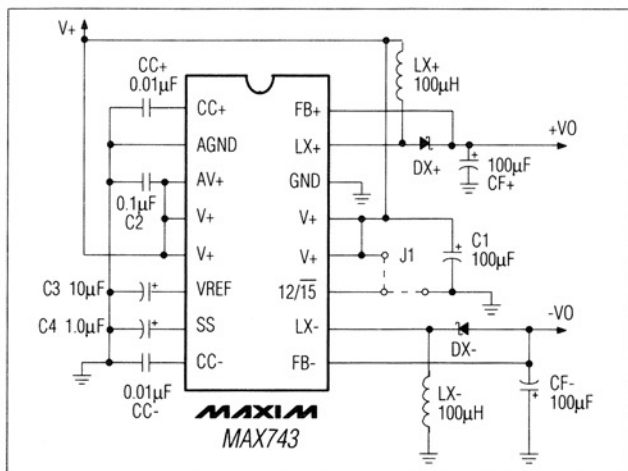
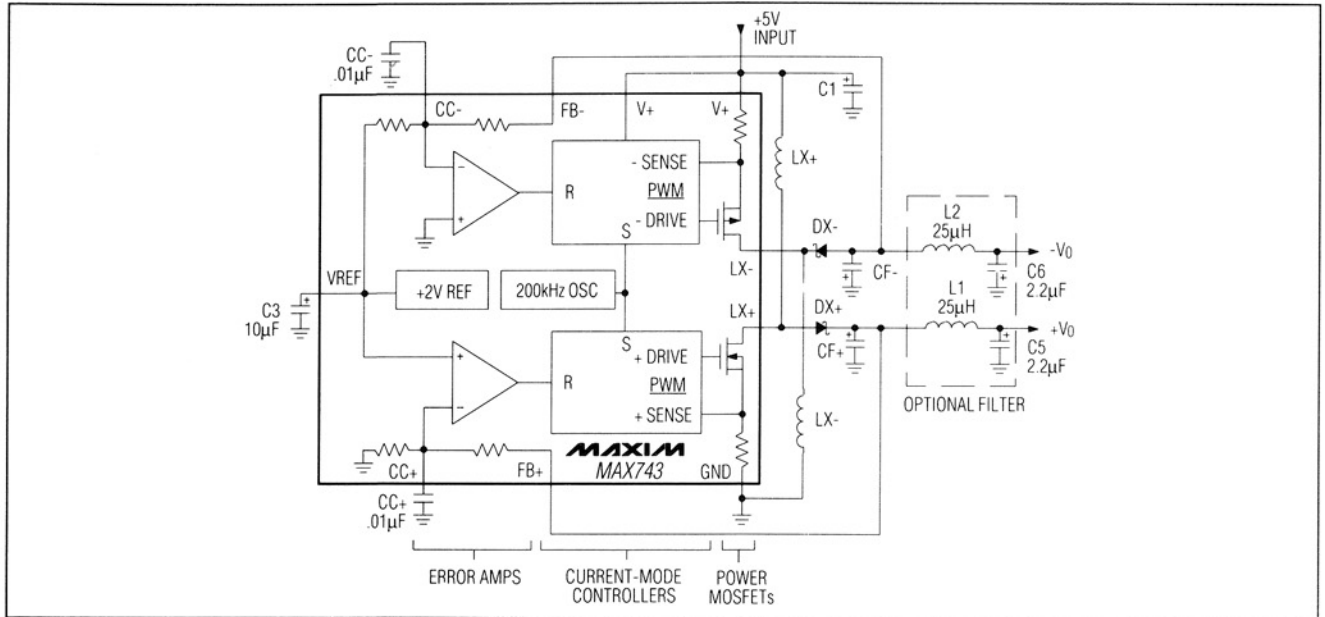
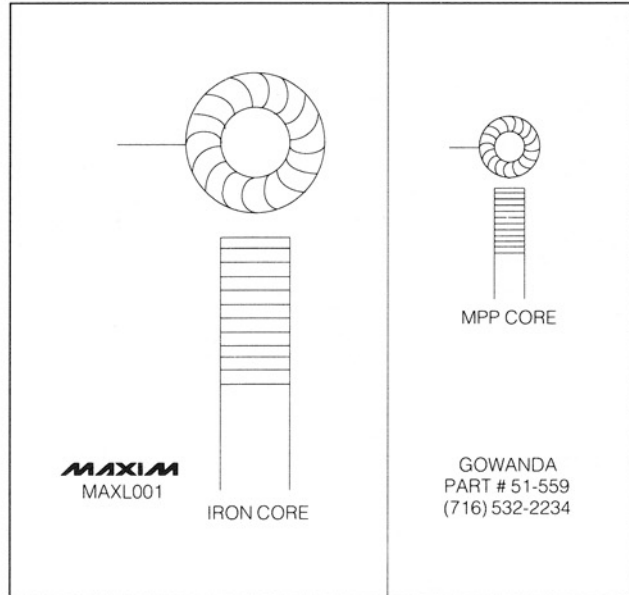
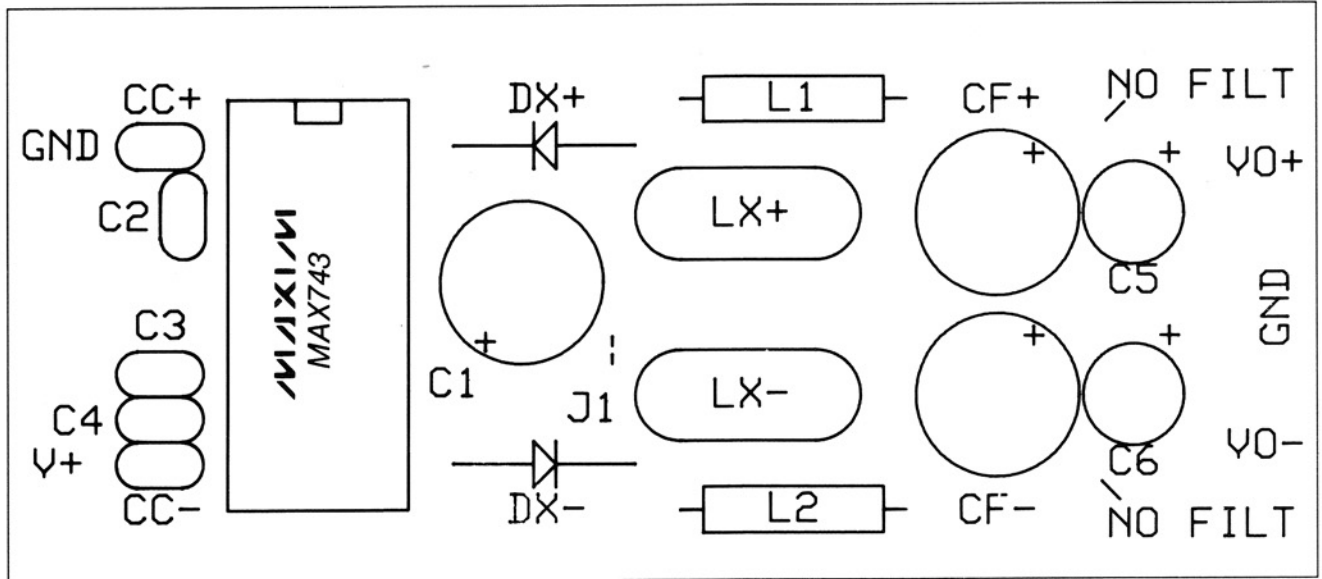

Figure 1. Basic Application Circuit
Figure 4. Functional Diagram with Optional Pi Filter
Figure 5. 100 $\mu$ H Low-EMI Inductors for 3W Supplies (Actual Sizes) (See Table 1)
Figure 7. Component Placement Diagram for PC Layout of Figure 6
(Circuit of Figure 1,  $+4.5V < V+ < +5.5V$ , Note 1.)
(Circuit of Figure 1,  $V+ = +5.0V$ ,  $12/15$  pin =  $0V$ ,  $I_{LOAD} = 0$ ,  $T_A = T_{MIN}$  to  $T_{MAX}$ , unless otherwise noted.)
The circuit in Figure 1 has been tested at all line, load, output current, and temperature limits. Refer to the Electrical Characteristics table for guaranteed in-circuit specifications. Successful use of this circuit requires no component calculations.
The MAX743EVKIT Evaluation Kit demonstrates the output capabilities and noise performance of the MAX743 standard application circuit (Figure 1). The kit includes main switching components identical to those found in the high-volume production kit described on page 11 (MAX743CPEKIT). With a few quick modifications, the circuit can also serve as a low-noise test bed to evaluate other components, such as the miniature MPP toroid inductor of Figure 5. The kit includes optional Pi filters shown in the Functional Diagram (Figure 4), which reduce output noise to less than 2mVp-p.
**1. Build Circuit.** Assemble the PC board according to the component placement diagram of Figure 7 and the schematic of Figure 4. 3 resistors will be left over (and used for testing). The extra holes near LX and CF are options for nonstandard component sizes. Do not install jumper, J1, or C4.